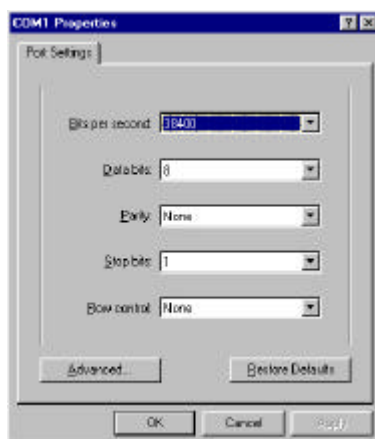

Figure 4-1: Hyper Terminal Application COM Port setting Values
The definition of the various setup values is performed by connecting a computer with a built-in Hyper Terminal application to the MediaRacer® 100 unit. Power on the computer and define the Hyper Terminal application COM port setting values as follows (see Fig 4-1):
2. Verify that the default values for Hyper Terminal Port setting are as shown in Fig 4-1.
4. During the rebooting process press the space bar to start the service software. When the main menu of the MediaRacer® Service Software (Fig 4-1) is displayed, the user can change default values and configure the MediaRacer® 100 unit according to his own specifications.